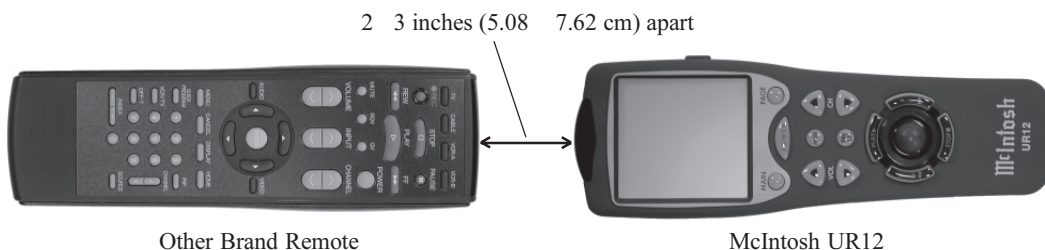

Figure 14
- Place your original remote control to the UR12 head to head about 2-3 inches apart. Refer to figure 14.